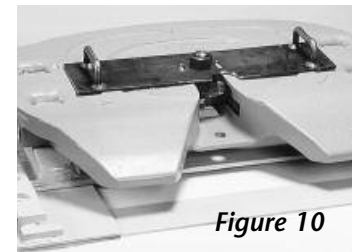

Figure 10
- Check to ensure that the fifth wheel latches properly and is properly adjusted using the fifth wheel gauge shown in Figure 10. If adjustment is necessary, follow adjustment procedures outlined in the Simplex General Inspection and Maintenance Manual.